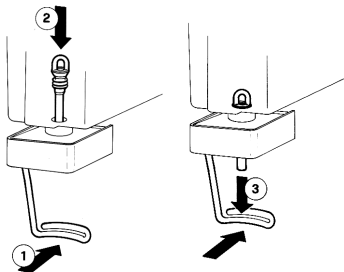

figure 5
2 **Pinch tube faucet:** push the dispensing handle (1) and insert the pinch tube into its vertical seat in the bowl bottom(2). Lightly pull the pinch tube end downwards til itl is well arranged (3) (see figure 5).